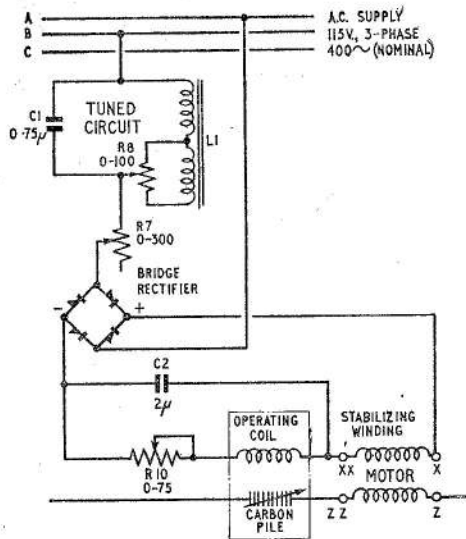

Fig. 4. Circuit diagram of frequency regulator and parallel tuned circuit and stabilizing winding in inverter
8. A stabilizing winding X-XX is wound on the main poles of the motor side of the inverter, and is in series with the operating coil of the frequency regulator carbon pile operating coil (fig. 4) and associated rectifiers. Any instability in the field current induces a voltage in the stabilizing winding; this voltage in phase opposition to the initial disturbances, energizes the coil of the frequency regulator, operating the carbon pile to dampen the disturbance. The possibility of the machine hunting is consequently eliminated. The action of this device is similar to that of the stabilizing transformer in the inverter control unit.